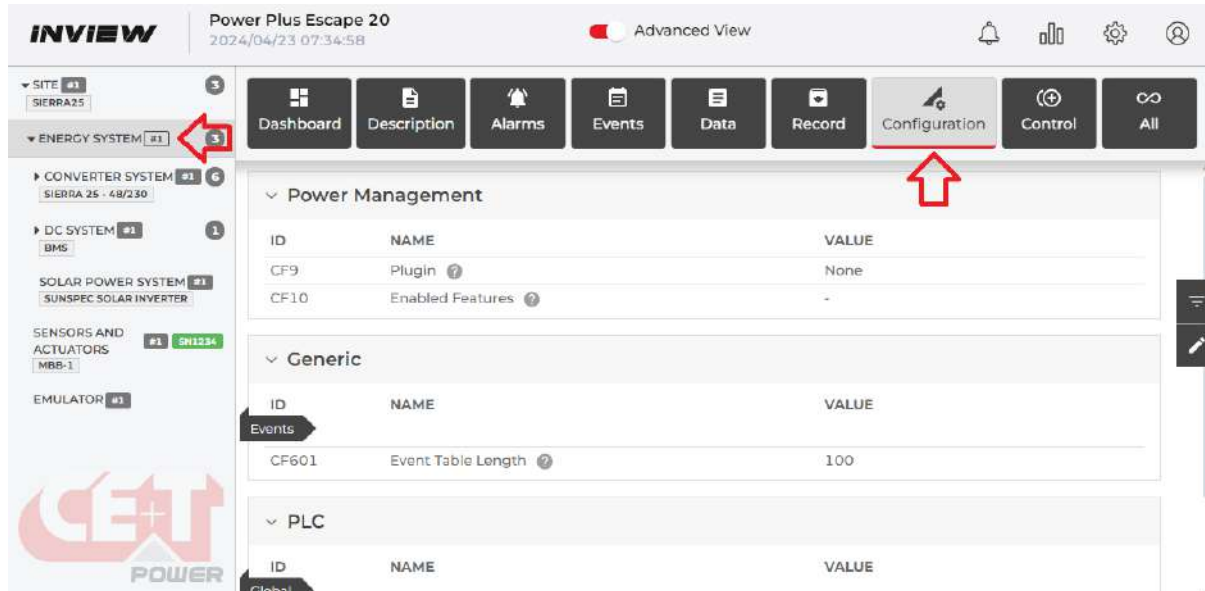

Figure 28- AC In Control Function
- 1- Input "AcInCtrl" into field CF10 found in **Energy System > Configuration**. As seen in Figure 28- AC In Control Function.